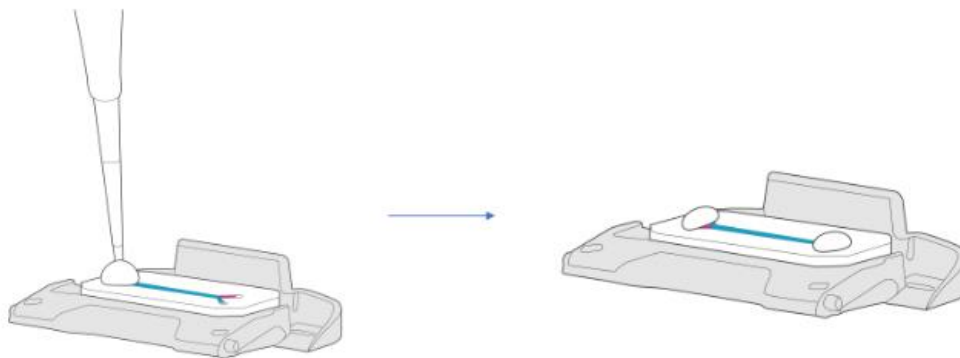

Figure 6: Chip with medium drops covering the inlet and outlet ports.
2. Place additional droplets of media to fully cover all inlet and outlet ports to prevent evaporation from the ports (See Figure 6).
2. Place additional droplets of Complete Maintenance Medium to fully cover all inlet and outlet ports to prevent evaporation from the ports (See Figure 6).